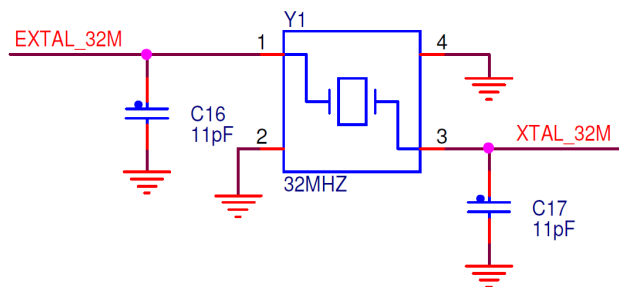

Figure 7. FRDM-CR20A 32 MHz reference oscillator circuit
- 32 MHz Reference Oscillator - Figure 7 shows the external 32 MHz external crystal Y1. This mounted crystal must meet the specifications outlined in the AN3251 application note. The IEEE 802.15.4 Standard requires that the frequency be accurate to less than ± 40 ppm.